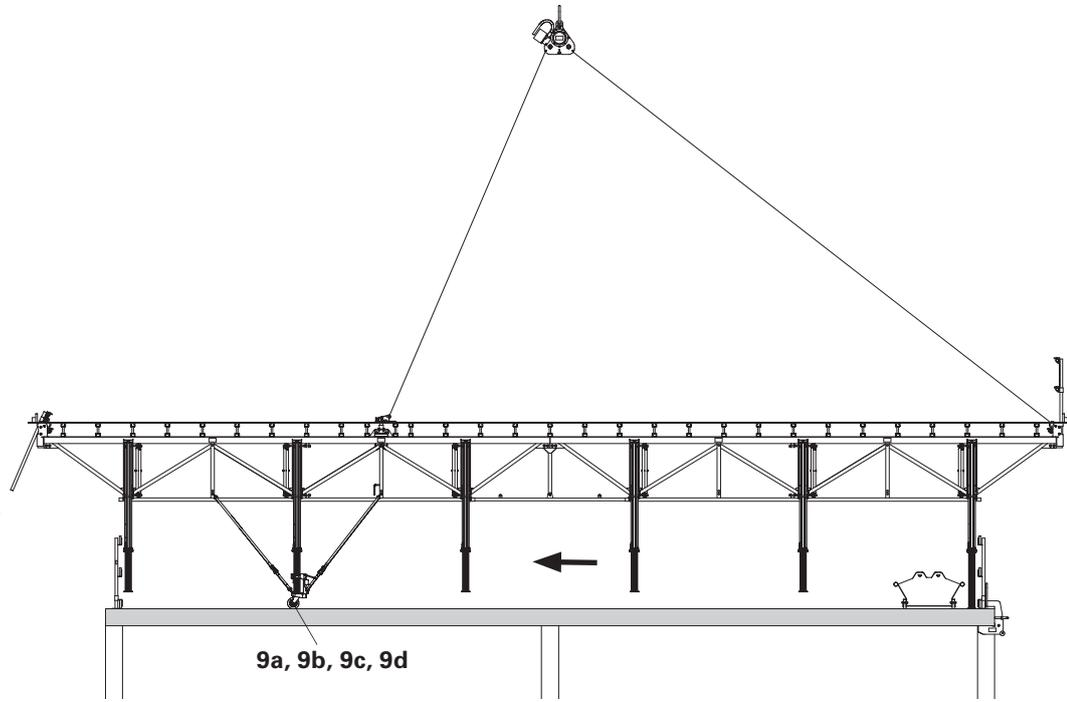

Fig. A6.19
2. Position the SKYTABLE table with the crane and spindle out the required props for ensuring stability. (Fig. A6.19)